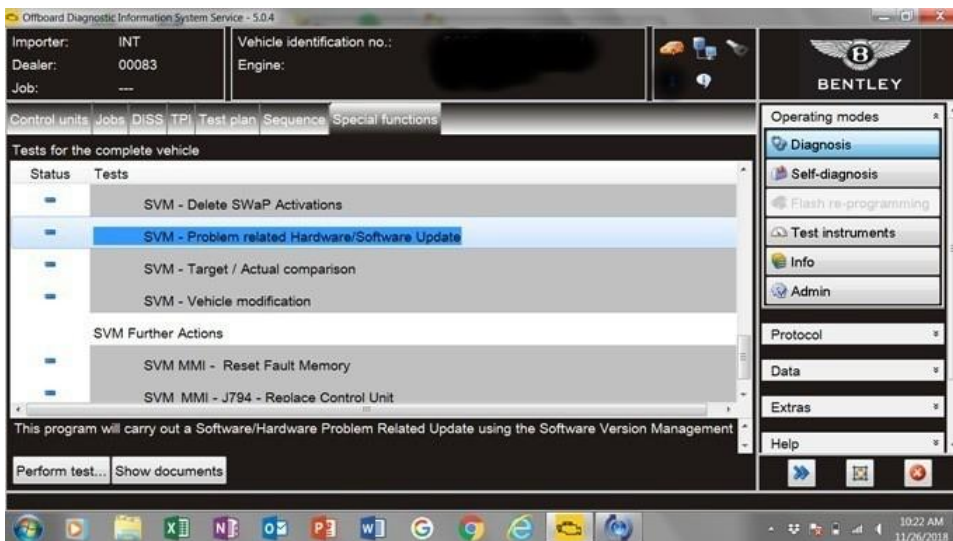

Figure 3
- Within the Special functions tab select SVM – Problem related Hardware/Software update then select Perform test (Figure 3).